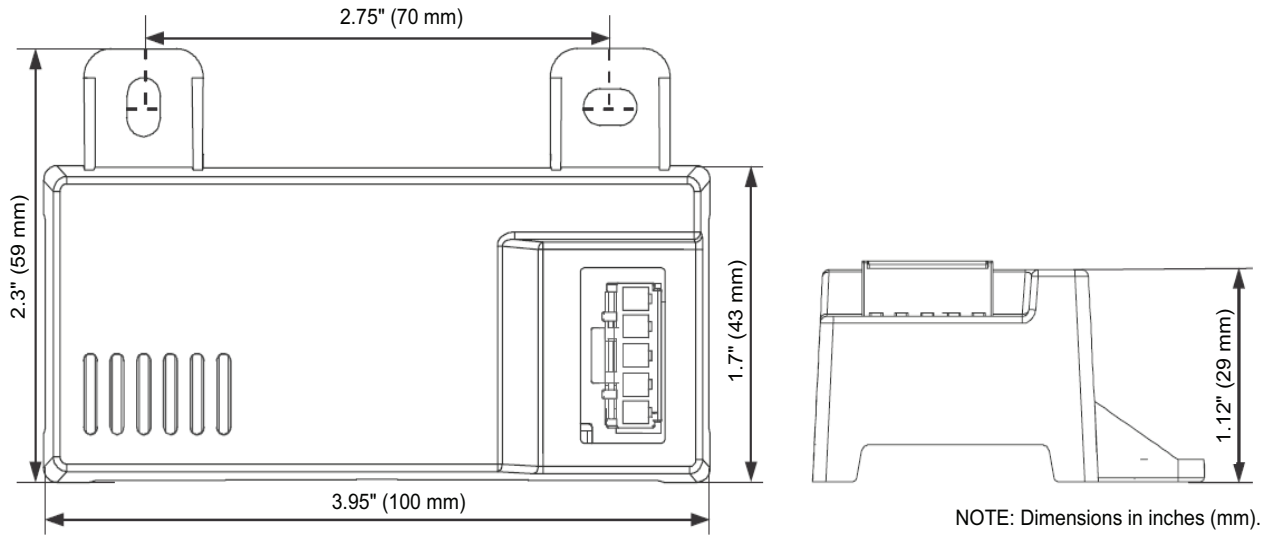
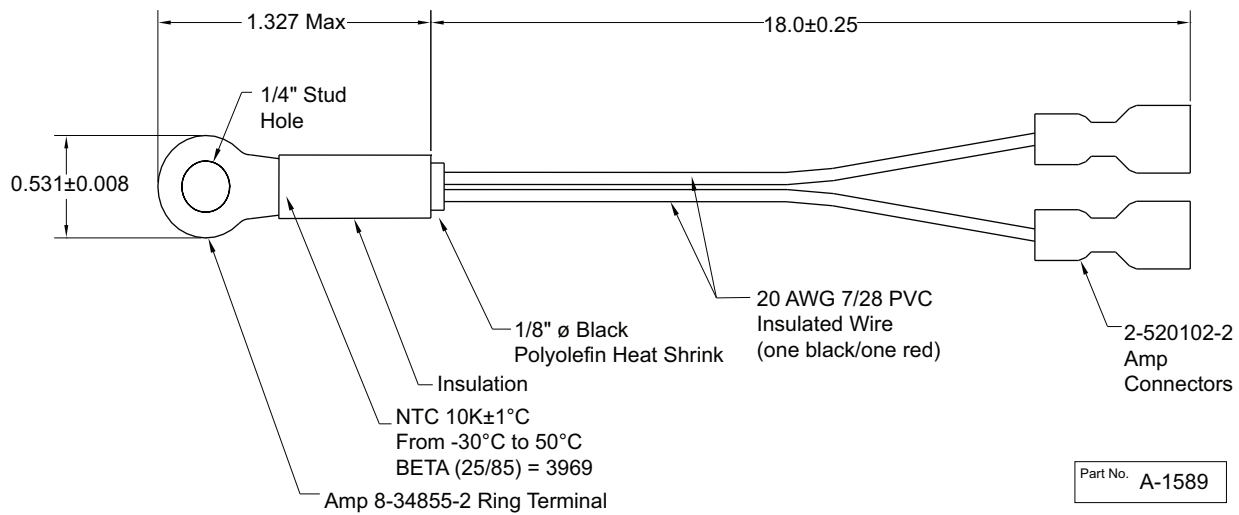
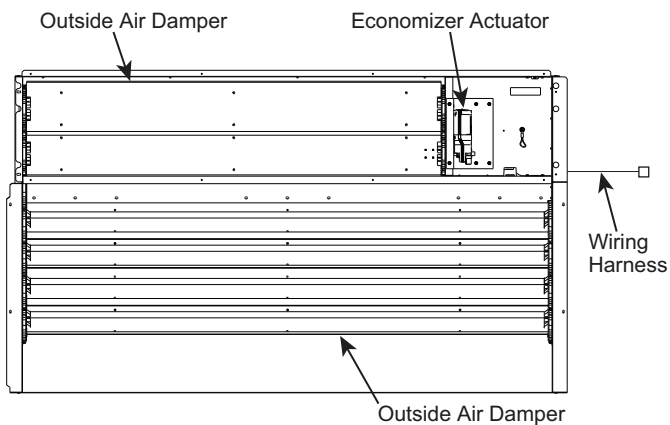

Fig. 86 — HH57LW001 Dimensional, Connection and Switching Information
Fig. 87 — HH79NZ039 Dry Bulb and Mixed Air Sensor Wiring
Fig. 88 — EconomizerONE System Component Locations
When using the HH57LW001 enthalpy sensor (see Fig. 86) for outside air changeover, the existing HH79NZ039 dry bulb sensor (see Fig. 87) must be removed. The enthalpy sensor will be mounted in the same location as the dry bulb sensor (see Fig. 88). When the enthalpy sensor's OA (Outside Air) temperature, enthalpy, and dew point are below their respective set points, outside air can be used for free cooling. When any of these are above their set point, free cooling will not be available. Enthalpy set points are configurable and create an enthalpy boundary according to the user's input. For additional details, see Fig. 89-90 and Table 36.
The optional enthalpy control sensor (P/N: HH57LW001) communicates with the POL224 economizer controller using the 5-wire harness, 48TC005213. The HH57LW001 sensor can be used as a single outside air enthalpy, a differential return enthalpy, or a differential return temperature sensor. Refer to the base unit control wiring diagrams found earlier in this book to wire the HH57LW001 enthalpy sensor for each option. See Fig. 86 and Table 38 on page 68 to locate the wiring terminals for each enthalpy control sensor.
Economizers are shipped standard with an HH79NZ039 outside air dry bulb sensor (refer to Fig. 87). System default setting (high temp limit) is 63°F (17°C) and has a range of 48°F to 80°F (9°C to 27°C). Sensor is factory installed on economizer.
If installing the optional HH57LW001 enthalpy sensor, the HH79NZ039 dry bulb outside air sensor must first be removed. Wire sensor to harness 48TC005213 and the (5) wires from the harness to the EconomizerONE harness in the return air chamber. Harness 48TC005213 has a 5-pin plug that connects directly to the HH57LW001 enthalpy sensor. Refer to the base unit control wiring diagrams earlier in this book for wiring connections. Refer to Fig. 86 and see Table 38.